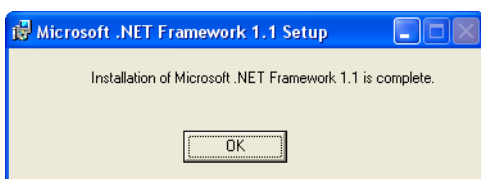

Figure 10: Installation Complete
8. When the installation is complete, a window appears (see Figure 10). Click on the  button.